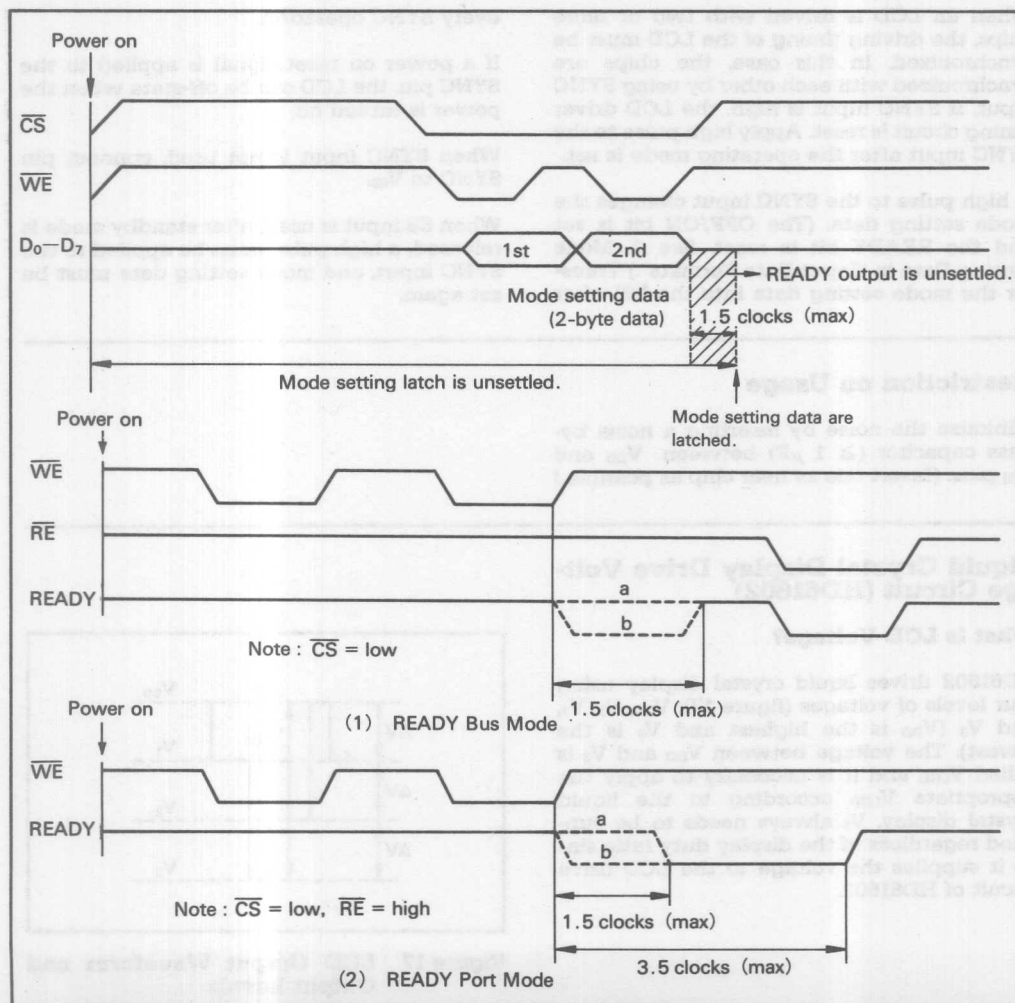

Figure 16 READY Output According to Modes
However, if you input SYNC before mode setting, waveform will be determined; when you choose READY bus mode, (1) a in figure 16 will be output, and when you choose READY port mode, (2) a will be output. The figures can be applied both to HD61602 and HD61603.